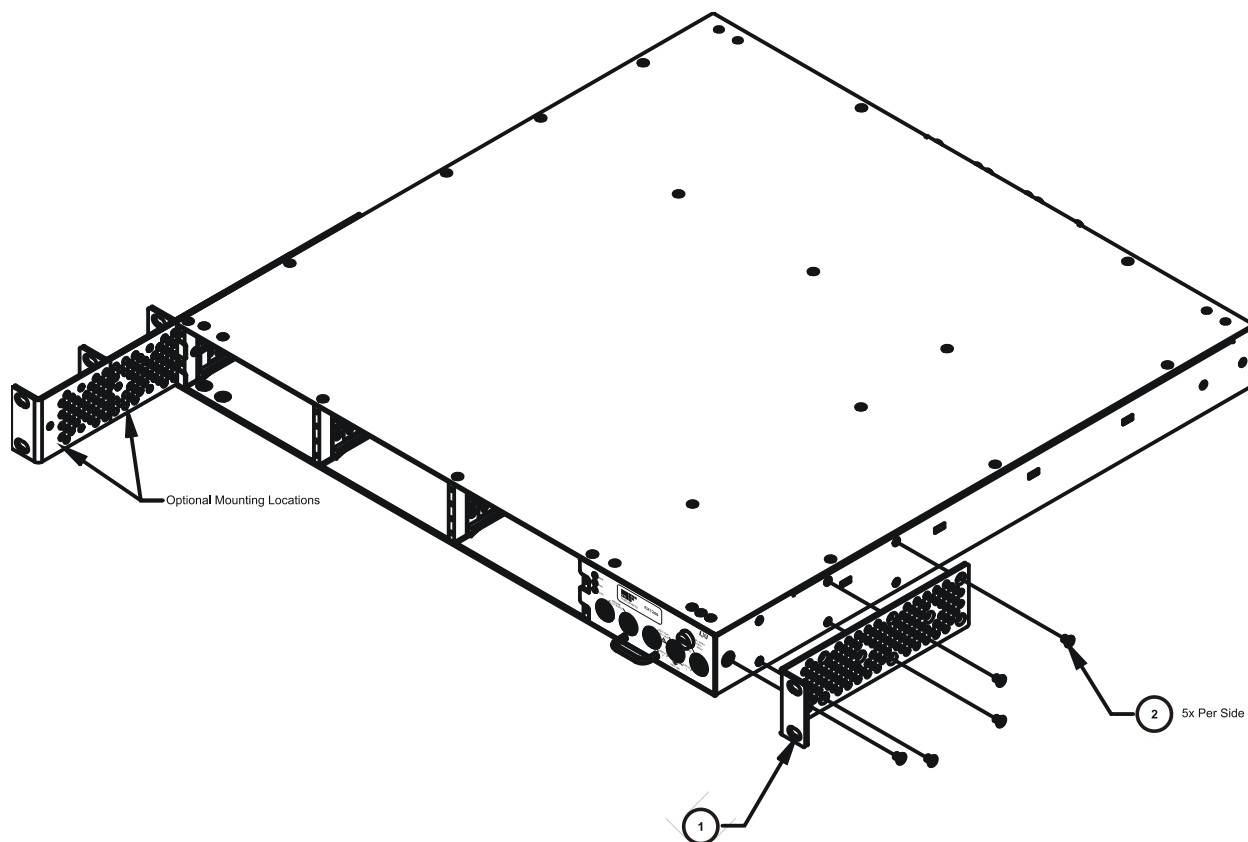

FIGURE 2-9: RACK EAR INSTALLATION DIAGRAM (EXPLODED FRONT VIEW)
- 2) Using a #2 Phillips screwdriver, install the rack ears (P/N: 41-0482-009) on the front of the EX1200 using five (5) 6-32 x 3/8" flat head Phillips stainless steel screws (P/N: 37-0114-025) for each rack ear. Note that the "Optional Mounting Locations" in Figure 2-9 allow the EX1200 to be installed in a rack either flush or recessed.